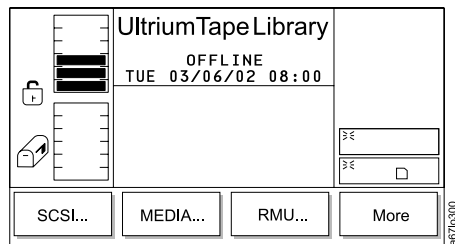

Figure 165. Library Submenu
3. Press the button below the **Library** softkey. The Library Submenu displays (see Figure 165).